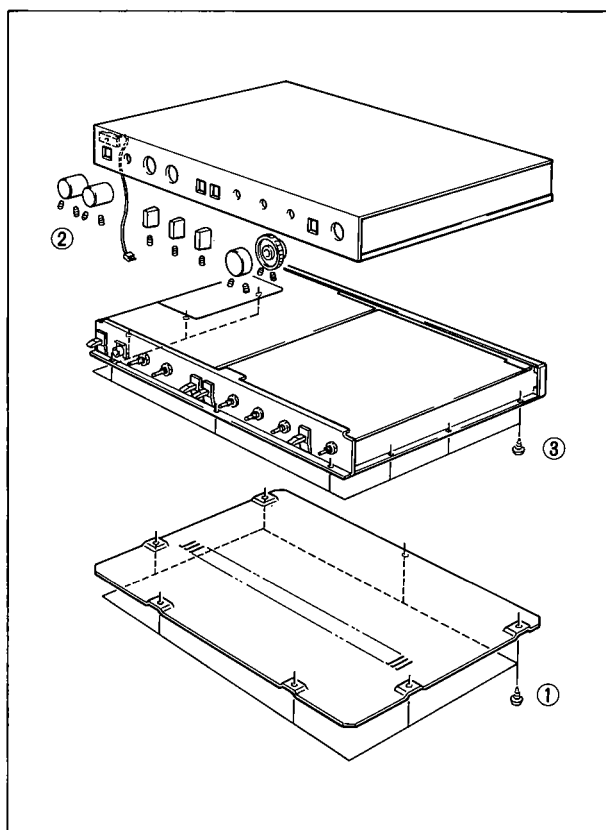

Fig. 1
- a. Remove 7 screws (①) in Fig 1.
- a. Loosen the set screws (②) in the knobs and remove the knobs.
- b. Remove 9 screws (③) in Fig 1.